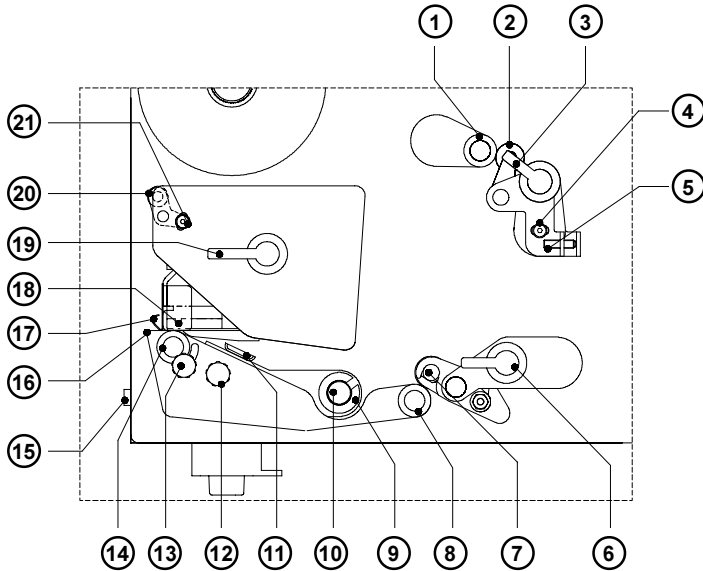

Fig. 4f Detailed view of the print mechanism Hermes 4F/5F/4R/5R
- 11 - Print mechanism (Fig. 4f)
- 12 - Print mechanism (Fig. 4f)